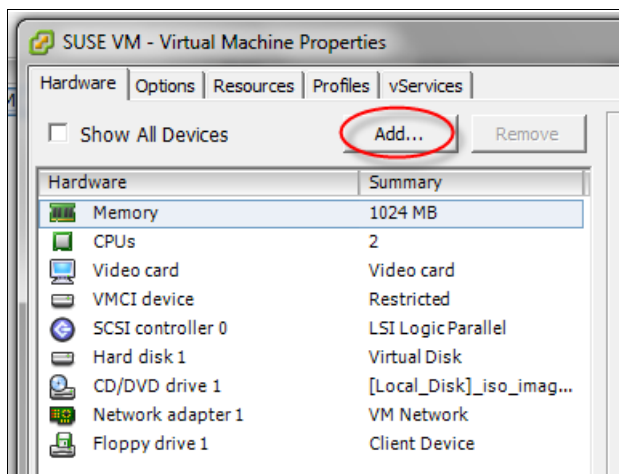

Figure 7-26 Add device to VM
2. Click **Add** (Figure 7-26).